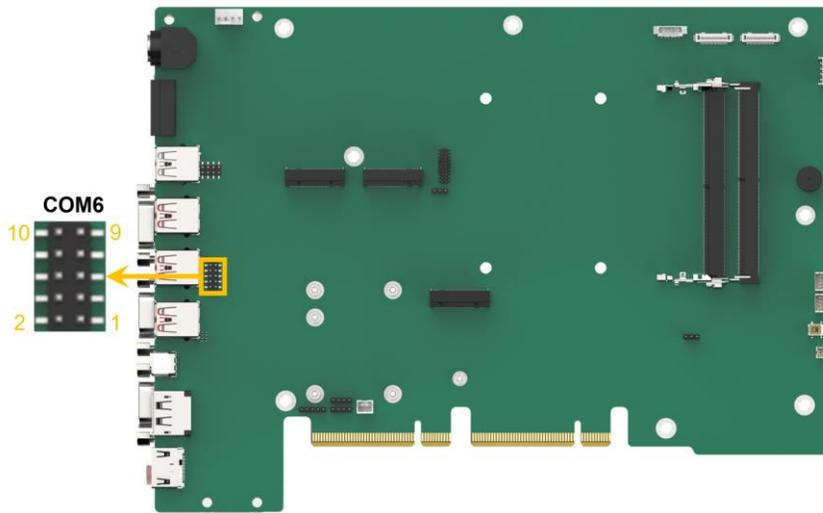

Figure 4-22: RS-232 Serial Port Connector Location
- CN Location:** See Figure 4-22